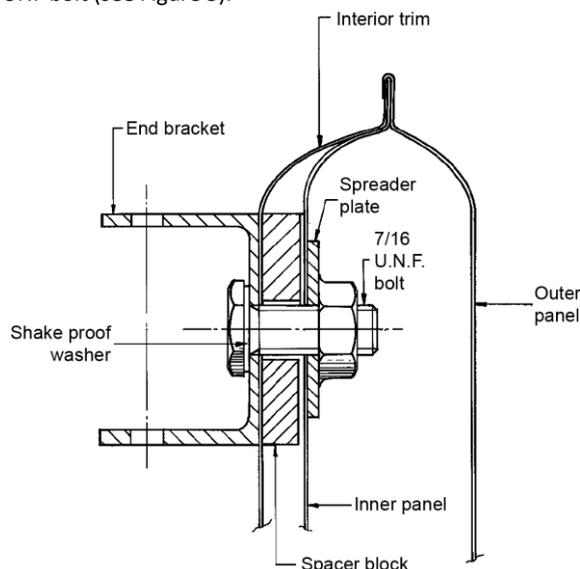

Figure 5: Child restraint anchorage bar attachment
- Drill a 12 mm hole through the inner body panel and install end bracket and spacer (if required) and spreader plate using 7/16" UNF bolt (see Figure 5).